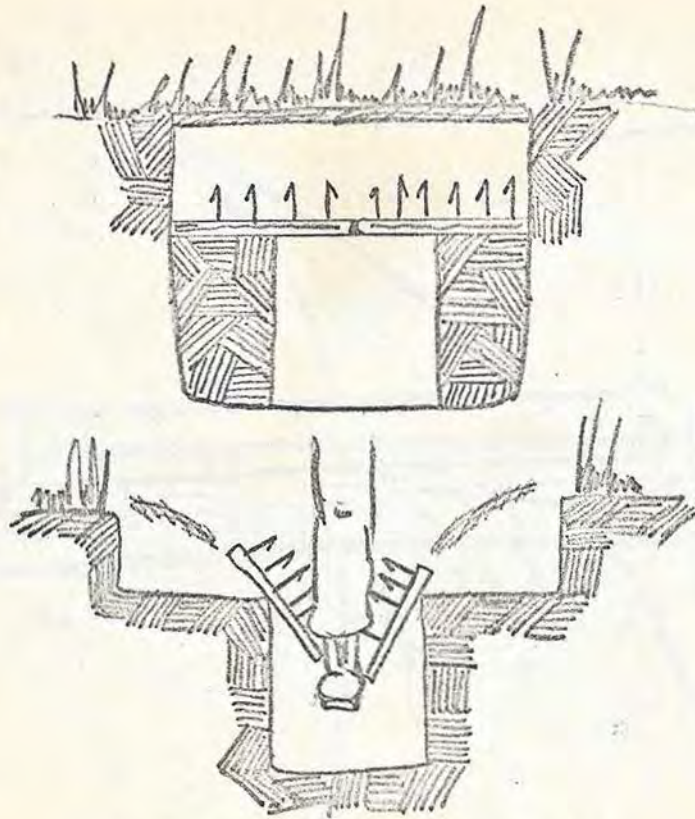

FIGURE 66. PUNJI "BEAR" TRAP
- a. Punji "Bear" Trap: A man stepping into the punji pit hits two boards or steel plates with steel spikes affixed, the boards or plates then pivot, wounding the leg above the area protected by the hoet. (Figure 66).